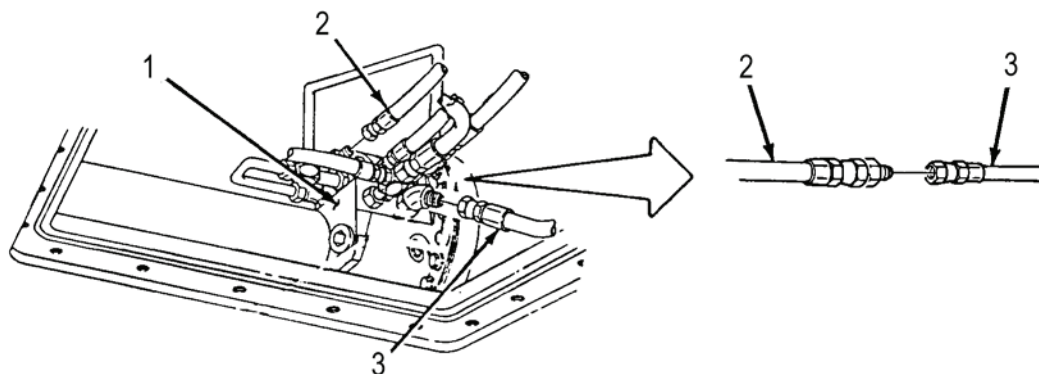

Figure 5. No. 1 Right Actuator Depicted
- Connect NO 1 SPNSN UNIT-2 hose (Figure 5, item 3) to NO 1 SPNSN UNIT-3 hose (Figure 5, item 2).
- Start engine and move SUSPENSION CONTROL lever to RAISE. Excessive leakage is indicated if corner of vehicle fails to raise. If front corner does raise, problem is most likely in No. 1 actuator (Figure 5, item 1).